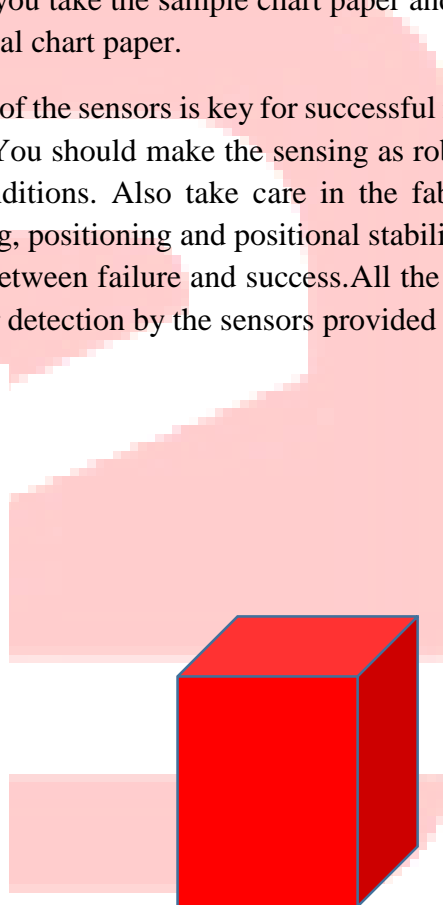

Figure 3B: A Red Colored block
- Team prepares 5 blocks each of Red, Blue, Green and Black by covering the blocks with the respective colored chart paper. A red block is shown as an example in Figure 3B.